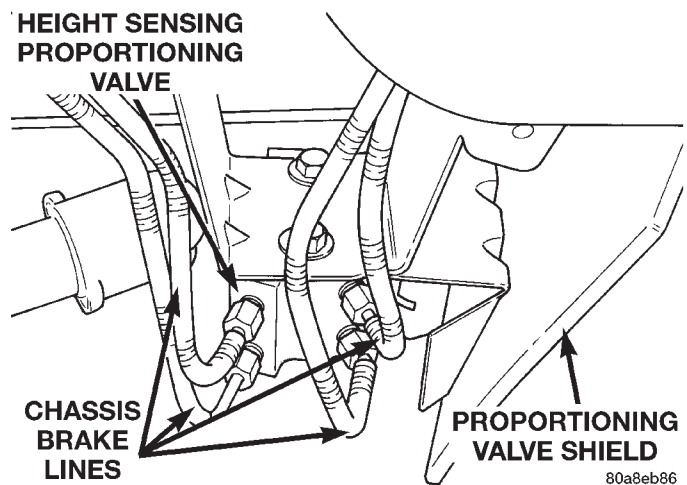

Fig. 134 Chassis Brake Tubes At Proportioning Valve
(3) Remove the 4 chassis brake tubes from the inlet and outlet ports of the proportioning valve (Fig. 134).
(3) Install the 4 chassis brake lines (Fig. 134) into the inlet and outlet ports of the proportioning valve. Tighten all 4 line nuts to a torque of 16 N·m (142 in. lbs.).
(4) Adjust the proportioning valve actuator. See Height Sensing Proportioning Valve in the Adjustment Section in this group of the service manual for the adjustment procedure.
(5) Bleed the brake system thoroughly to ensure that all air has been expelled from the hydraulic system. See Bleeding Brake System in the Service Adjustments section in this group of the service manual for the proper bleeding procedure.
(6) Lower the vehicle to the ground.
(7) Road test the vehicle to verify proper operation of the vehicles brake system.